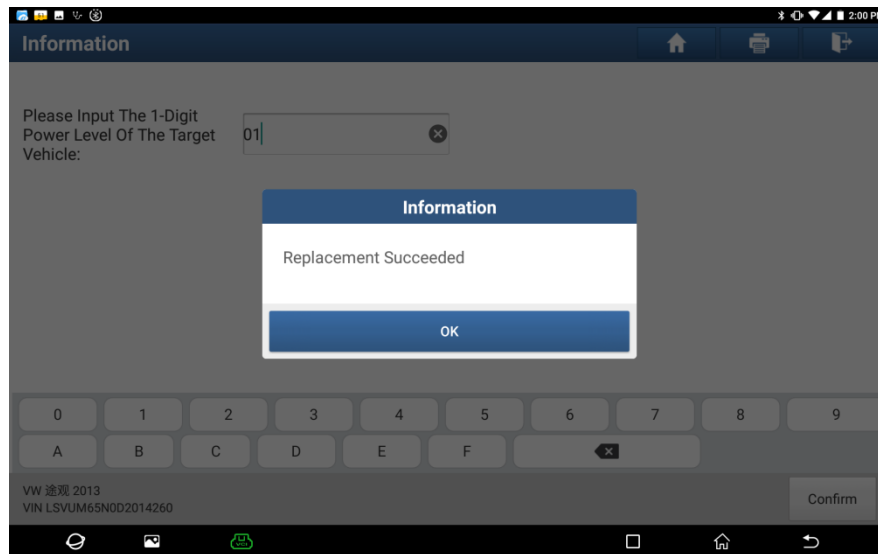

Figure 20
3.2.11 Make sure that the external Engine has been replaced on original vehicle, click [Start Replacement], the replacement is completed, as shown in Figure 20.